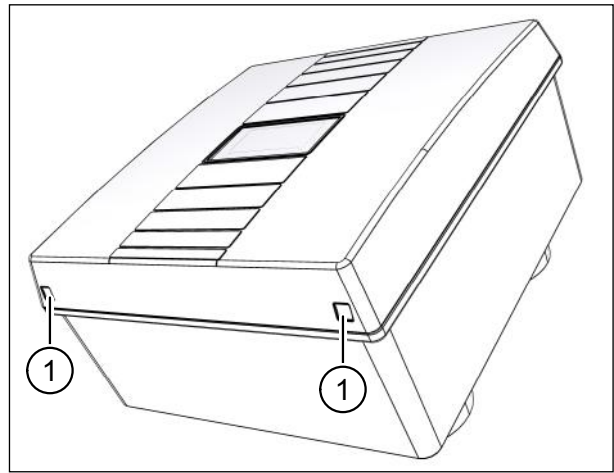

Fig. 2: Removing the cover from the ventilation unit
- ▶ Using both thumbs, press the two latches (item 1 in Fig. 2) on the bottom of the ventilation unit. The cover will come away.